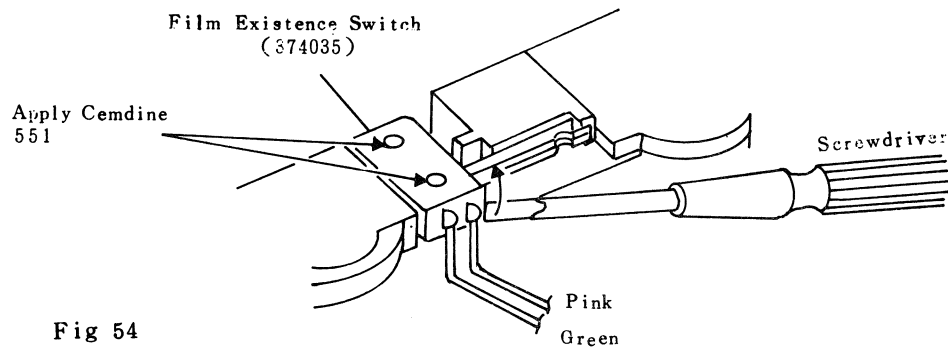

Fig 54
- 1) Lift up Film Existence Switch (374035) with screwdriver No 4 as shown in (Fig 54).